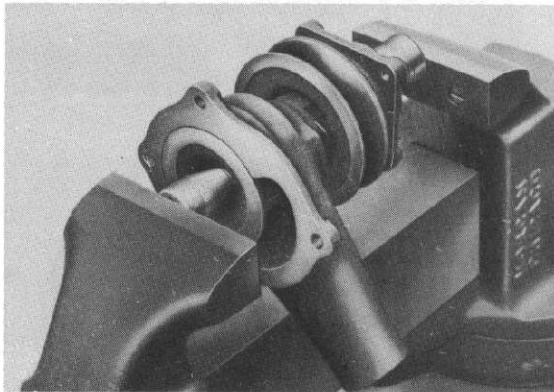

Fig. 7
- Step 4—Install the pulley assembly as shown in Figure 7 (far enough on the shaft to permit installation of the snap ring).